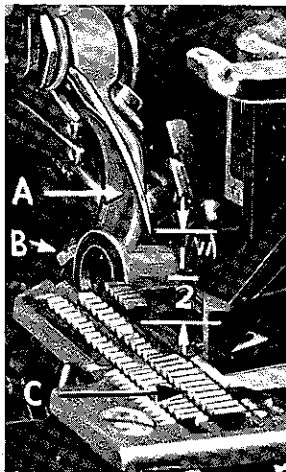

Fig. 3
With throat plate in position, needle should center in the front end of needle slot. When needle is at high position, needle point should be set $\frac{1}{2}$ inch above throat plate (Fig. 3). Move needle driving arm (A, Fig. 3) by loosening clamp screw (B). Remove throat plate.